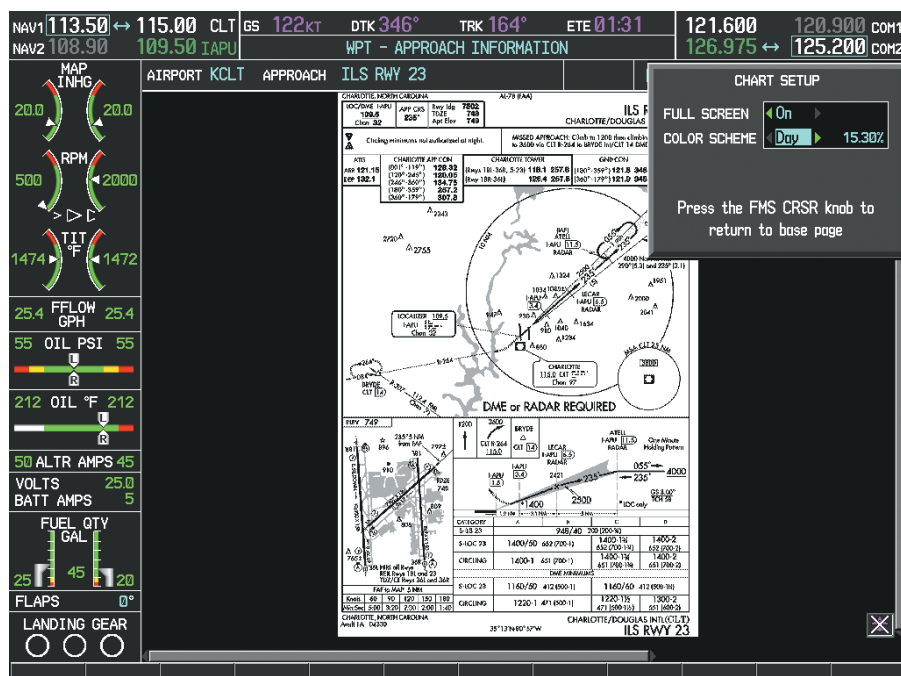

Figure 8-67 Approach Information Page, Day View
- 3) Turn the large **FMS** Knob to move to the COLOR SCHEME Option (Figure 8-67).